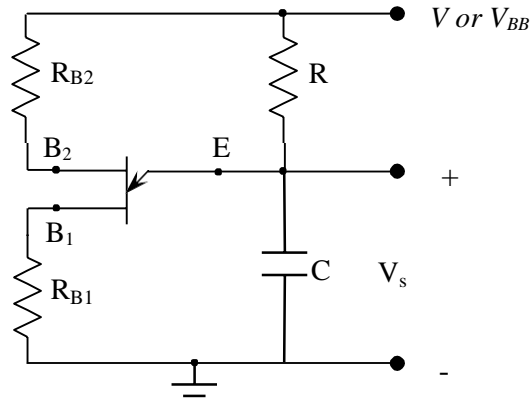

Figure:4
Pin Configuration 2N2369 Figure 4.
1. Connect the circuit as shown in the figure 4.
3. Measure the voltage (1) across collector – to – emitter terminals, (2) across collector – to – base terminals and (3) Base – to – emitter terminals.
5. Measure the voltage (1) across collector – to – emitter terminals, (2) across collector – to – base terminals and (3) Base – to – emitter terminals.
The UJT sweep circuit shown in the figure 4 consists of a UJT, a capacitor and a resistor arranged as shown.